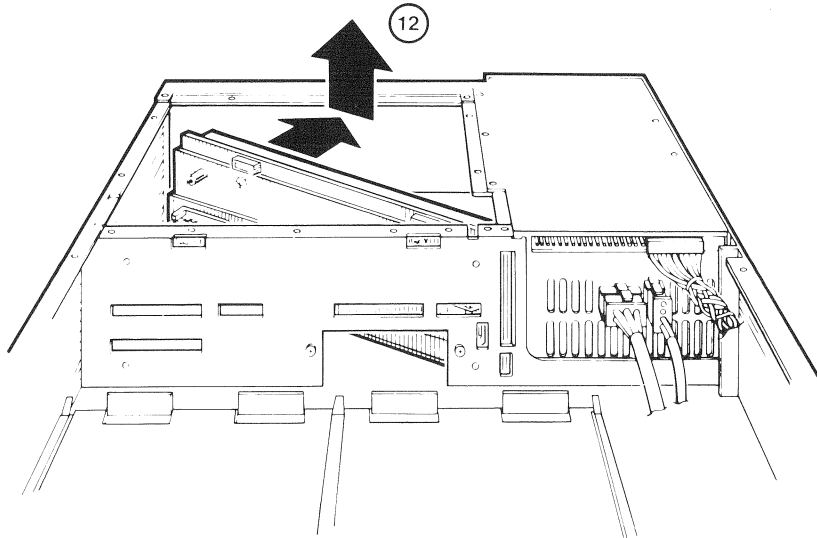

Figure 8-21 Backplane Removal
12. Pivot the CD side of the backplane assembly 45 degrees toward the rear and lift it straight up (Figure 8-21).